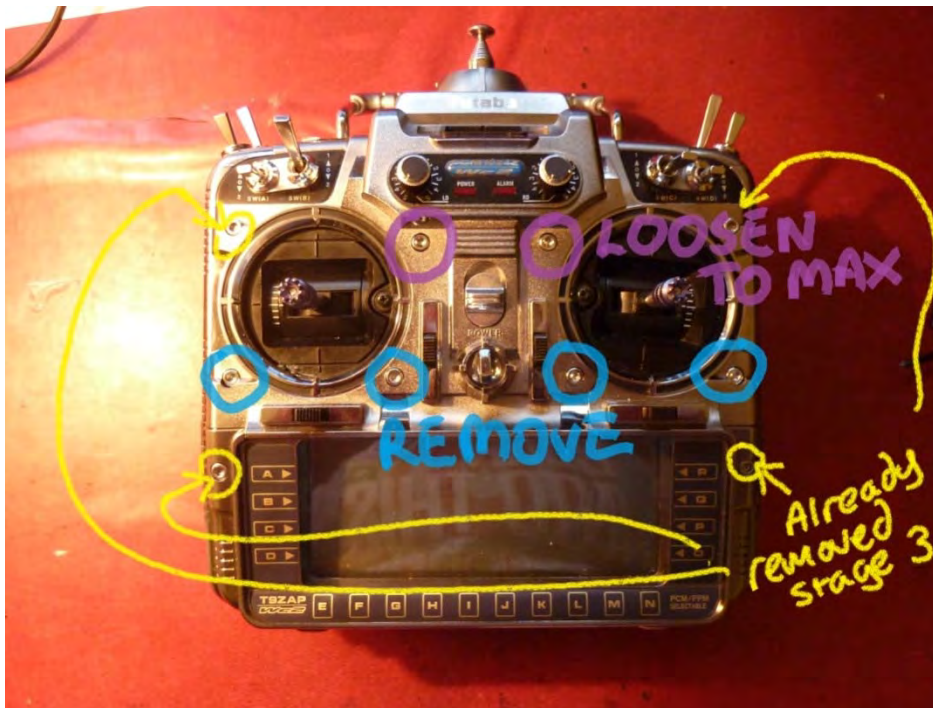

Figure 71 Remove and loosen these screws (note those already removed in Stage 3, if they are still present remove them)
3. Turn the transmitter over and remove and loosen the following Allen key screws shown in Figure 71.